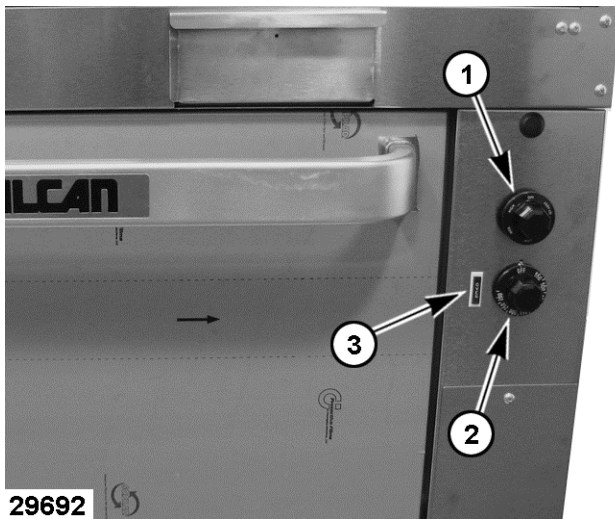

Fig. 1
2. Set the infinite switch (1, Fig. 1) for the top oven element to OFF during oven thermostat calibration.
3. Set the thermostat (2, Fig. 1) to 350°F.
5. Note the tester reading when the oven indicator light (3, Fig. 1) turns ON and OFF.